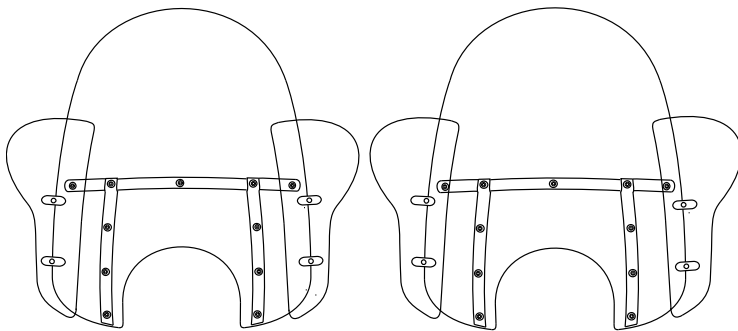

Fig. 2
3. Use the 5/32" Short arm allen wrench to remove the Socket head cap screw from the Wing mount part of the Biplane clamp (Fig 2).